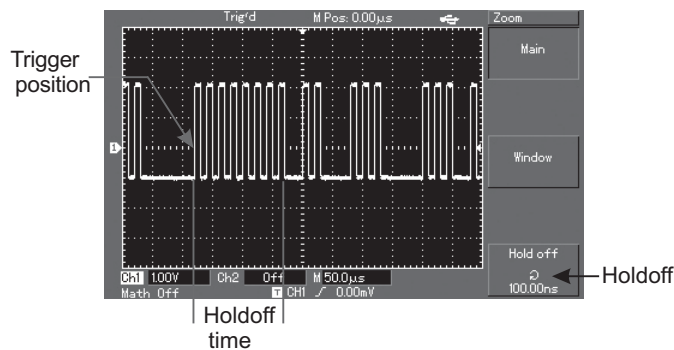

Figure 2-16 Use the holdoff function to synchronize complicated waveforms
You can adjust the holdoff time to observe complicated waveforms (e.g. pulse string series). Holdoff time means the waiting time for the trigger circuit to be ready for use again when the oscilloscope is restarted. During this time the oscilloscope will not trigger until the holdoff is complete. For example, if you wish to trigger one group of pulse series at the first pulse, set the holdoff time to the pulse string width as shown in Figure 2-16. For holdoff menu please see the table below :
1. Select waveform to go to the waveform storage menu shown below (see Figure 2-16). A stored waveform can be recalled with the call back function under waveform storage.